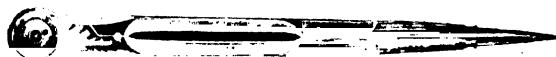

Fig. 3.
**Dividers.**—This instrument (Fig. 3) consists of two sharp pointed legs hinged together. It is useful for marking on a drawing a measurement of a given length. The measurement is taken by opening out the legs so that the points are the required distance apart. Sometimes this distance is taken from a drawing and sometimes from the ruler.